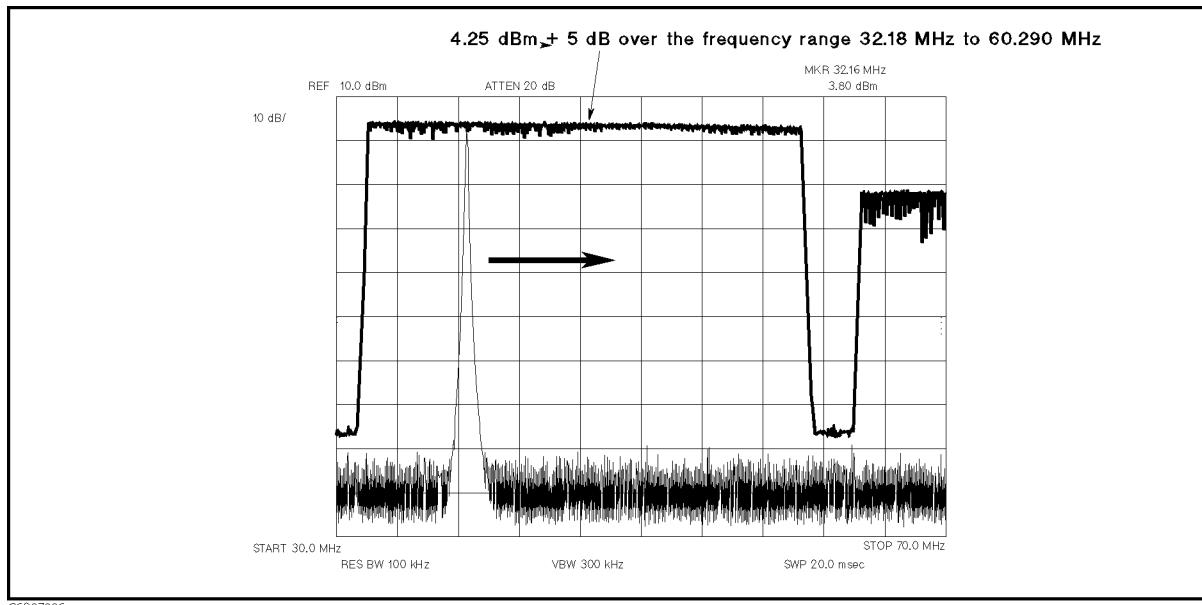

Figure 7-6. FRAC N OSC Typical Signal
i. Wait for the completion of the sweep, and check that the signal level is $+4.5 \text{ dBm} \pm 5 \text{ dB}$ over the frequency range of 32.18 MHz to 60.29 MHz. The displayed trace should be as shown in Figure 7-6.